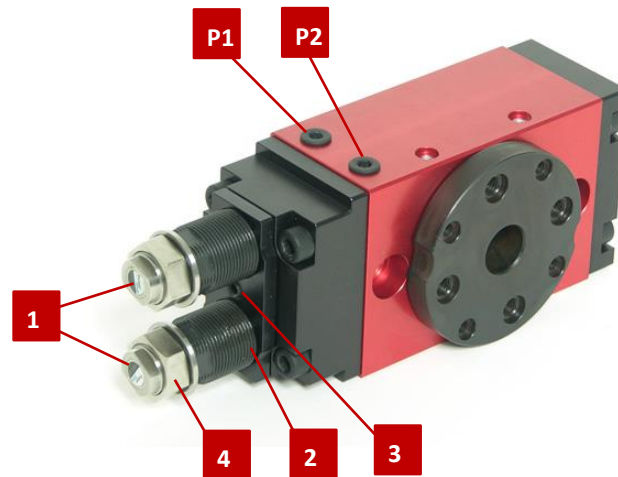

Fig. 20 Exemplary illustration
2. Loosen the clamping screw of the of the stop sleeve (Fig. 20, 3).
3. Turn the hexagon of the stop sleeve (Fig. 20, 2) until the end position is correctly adjusted.
5. Turn the hexagon of the stop sleeve (Fig. 20, 2) until the desired end position is reached.
6. Tighten the clamping of stop sleeves with the clamping screw (Fig. 20, 3).
1. Loosen the hexagon nut (Fig. 20, 4) on the shock absorber.
2. Screw in or out both shock absorbers (Fig. 20, 1) with the small hexagon: